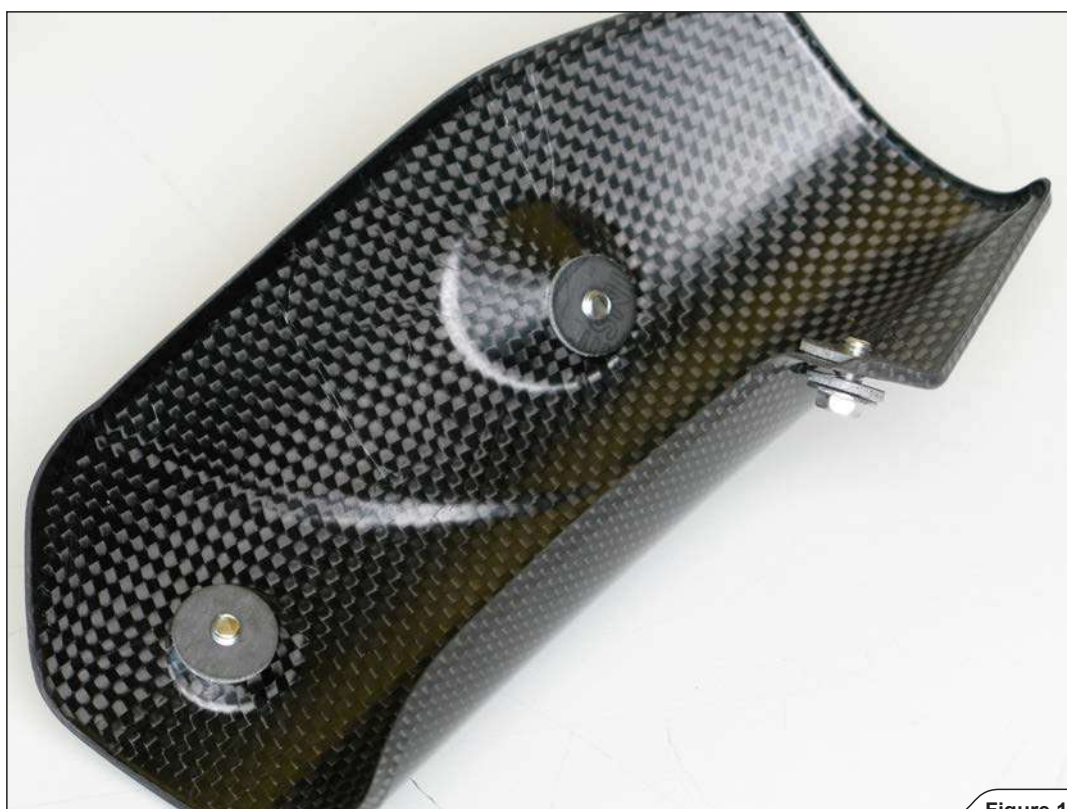

Figure 18
8. Correctly assemble the bolts and heat resistant washers onto the carbon fiber heat-shield, as shown (Figure 18).